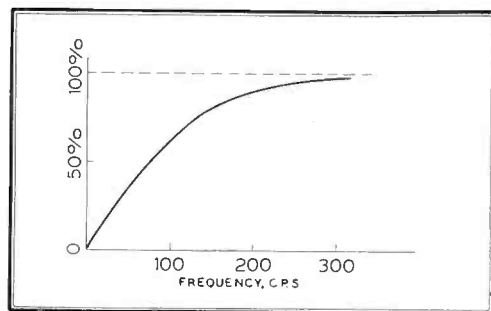

FIG. 8. FREQUENCY CHARACTERISTIC OF THE LOW-FREQUENCY TYPE OF MICROPHONE
As is seen from equation (6), the voltage e is directly proportional to the frequency for the lower modulating frequencies as shown by the curve, Fig. 8. The frequency characteristic was calculated under the assumption of a load resistance $R = 10$ megohms and a microphone capacity $C_0 = 200 \mu\mu\text{f}$. Thus, if for 16 cycles modulating frequency it is desirable to still obtain 90% of the voltage obtainable with the higher frequencies, it would be necessary to connect a ballast capacity of $1800 \mu\mu\text{f}$ in parallel to the microphone, thereby reducing the voltage to 1/10th of its original value. An increase of R beyond 10 megohms is hardly possible for practical operating reasons. The noise voltage between the ends of the 10-megohm load resistance and for a condenser capacity of $200 \mu\mu\text{f}$ is approximately 10 microvolts.